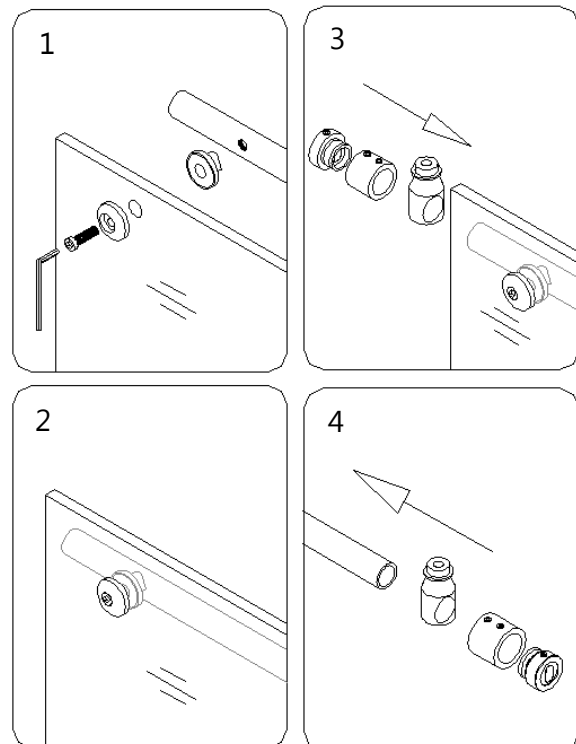
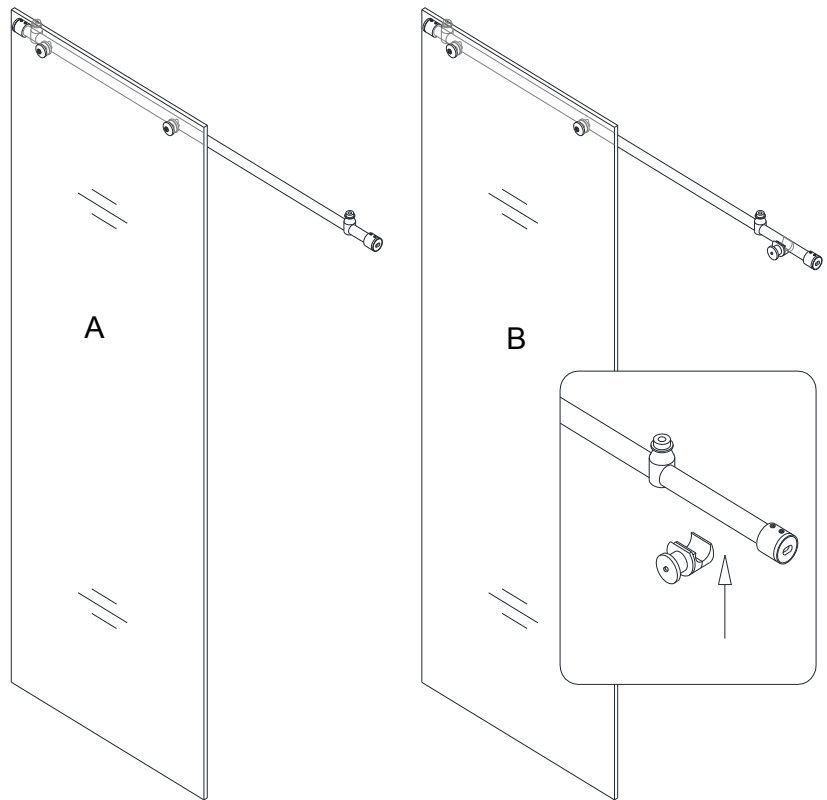

Fig. 6
Fig. 7
See Fig. 6 and Fig. 7 for details.
If the width of your door is **72"** and you are installing the door with the **Small Stationary glass (24)**, attach **Small Stationary glass bracket (23)** to the **Upper guide rail (03)** as shown in Fig. 7(B)